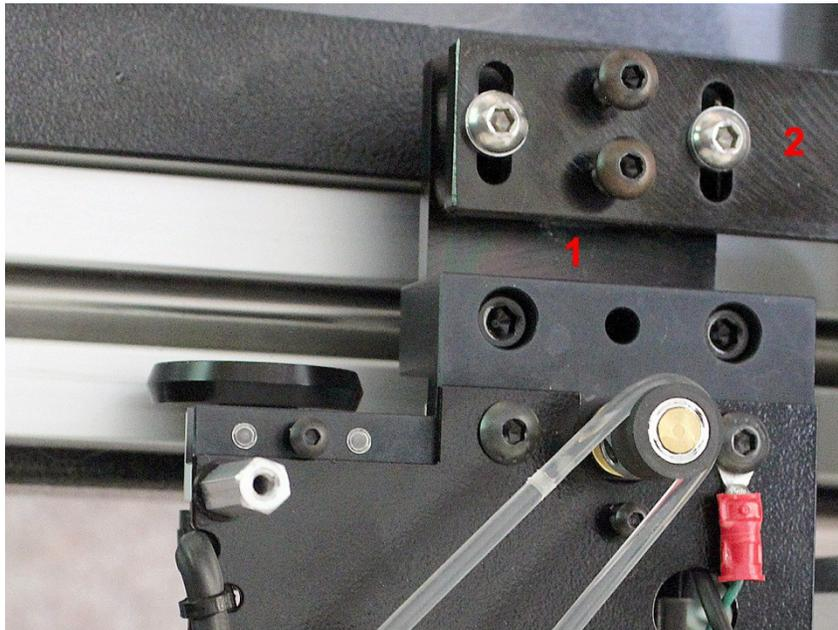

Fig. 1
Fig. 1 shows the motor, mounted on the motor mounting plate (1), part of the mounting bracket (2) that is attached to the carriage or the arm of the machine, and the four adjusting screws.